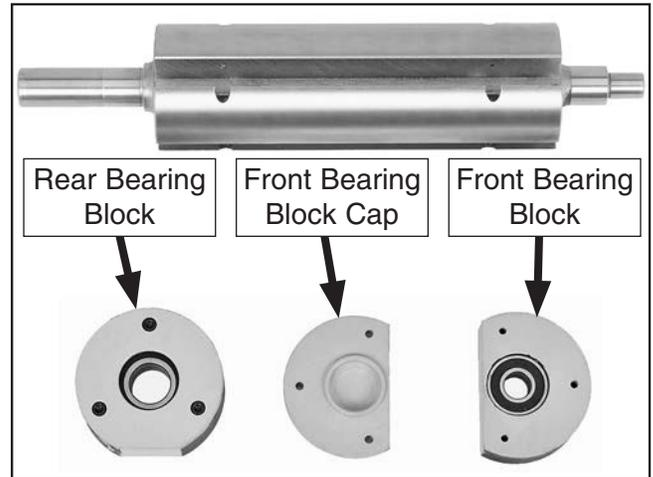

Figure 13. Disassembled cutterhead assembly.
25. Remove (3) cap screws that secure front bearing block cap, then remove cap with a standard screwdriver.
27. Repeat **Steps 23–24** in a similar manner to remove cutterhead from front bearing block and bearing. **Figure 13** shows disassembled components.